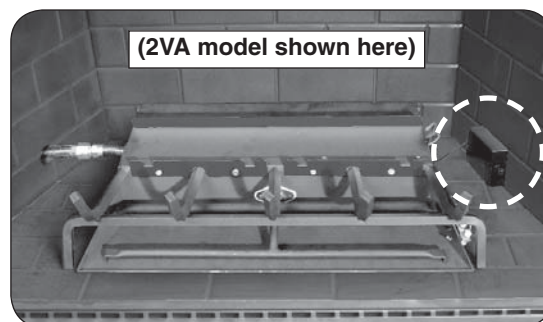
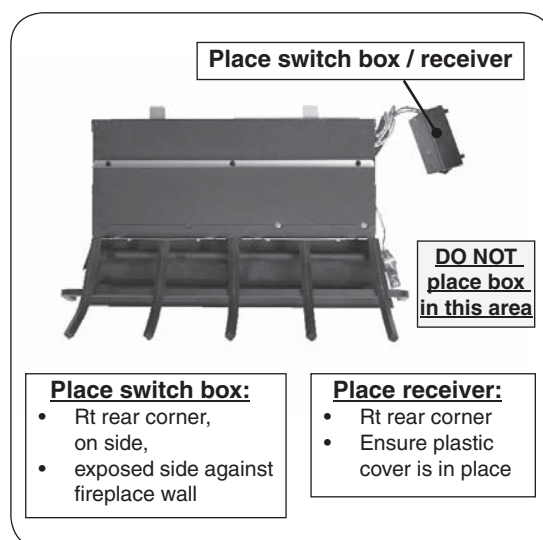

Fig. 14-2 Place switch box / receiver
Fig. 14-3 Proper box/receiver placement
3. Place the burner system in the fireplace. Center the burner in the fireplace. (Reference Fig. 14-2 for orientation.)
7. **Remote receiver:** place the plastic cover over the receiver, then place at the rear right corner of the fireplace. Place as far from the burner system as possible. See Fig. 14-2 & Fig. 14-3.
Switch box: Place on its side, at the rear right corner of the fireplace. It should rest with its bottom as near as possible and facing the fireplace wall. It must not be placed directly next to the burner pan area to avoid damage to the batteries. See Fig. 14-2 & Fig. 14-3.